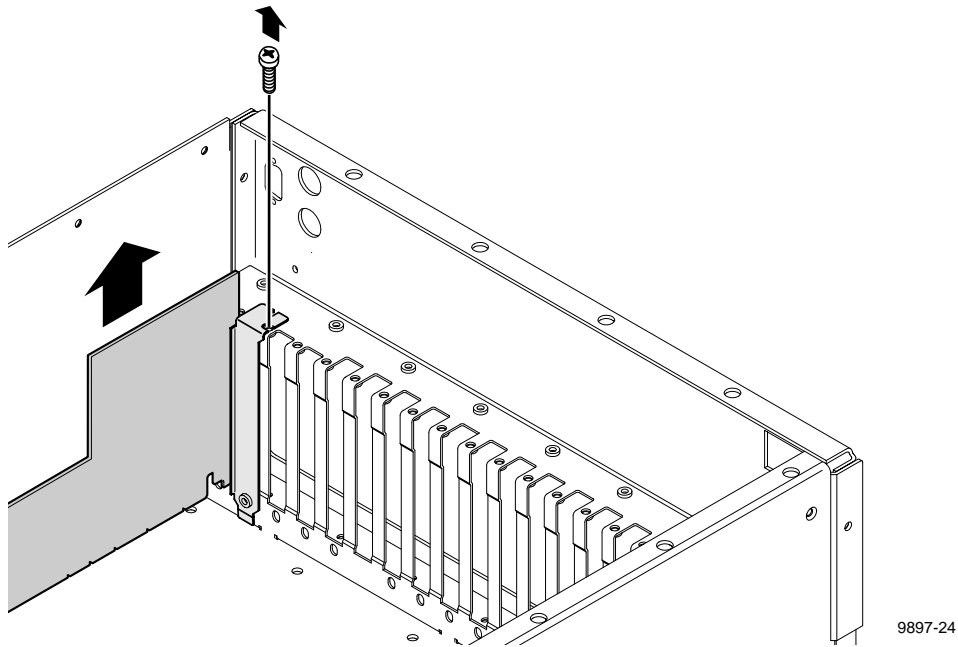

Figure 3. Location of circuit board mounting screw
5. The VGA-I/O board is located in slot 2. Remove the circuit board mounting screw as shown in Figure 3. If the VGA monitor cable is connected to the board disconnect it now.